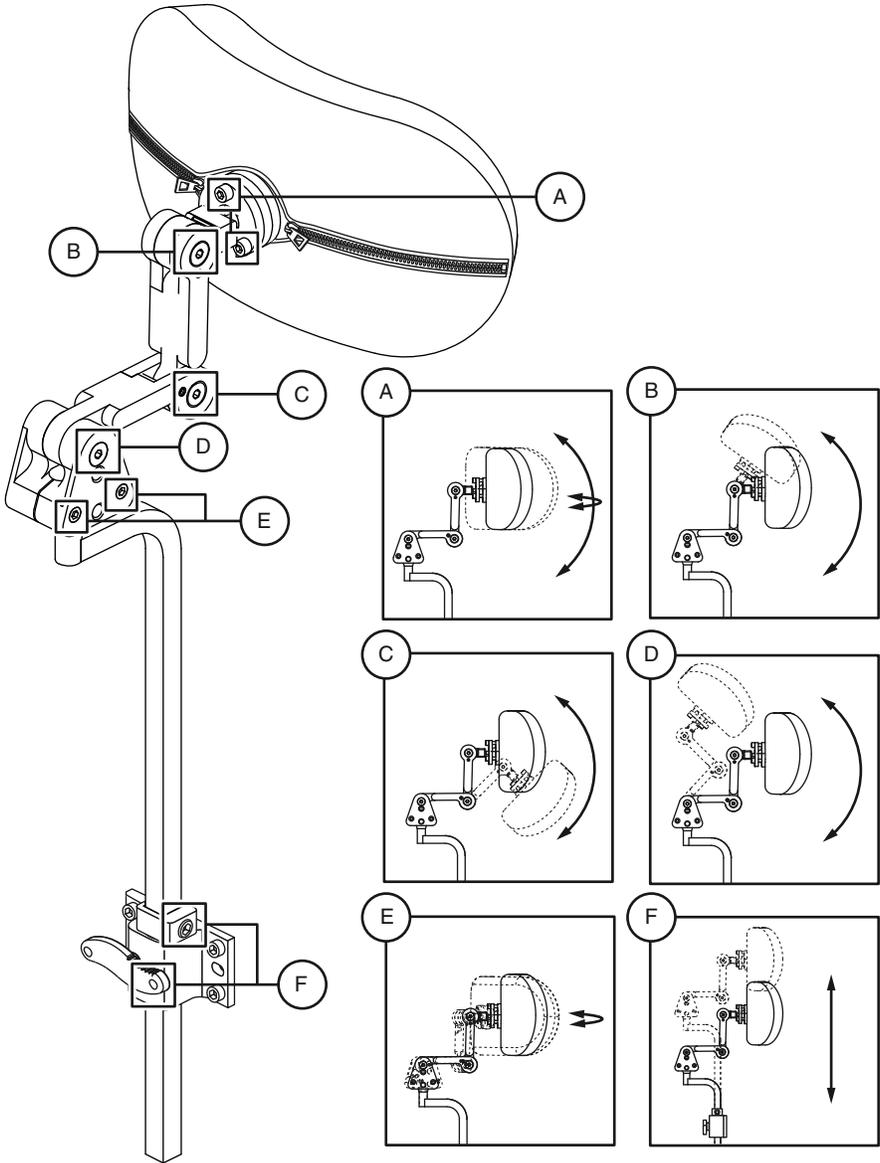

Figure 15. Headrest Adjustment Components
1. Loosen the adjustment screws that correspond to the desired adjustments. **See figure 15.**